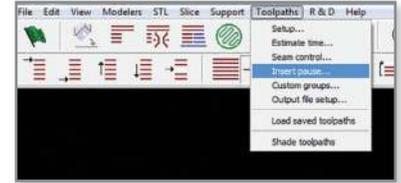

Figure 3: The Insert Pause command is found in the Toolpaths menu.
STEP 5: If the model will only be a single color, proceed to Step 7. Otherwise, in the **Toolpaths** menu drop-down, select **Insert Pause** (Figure 3).